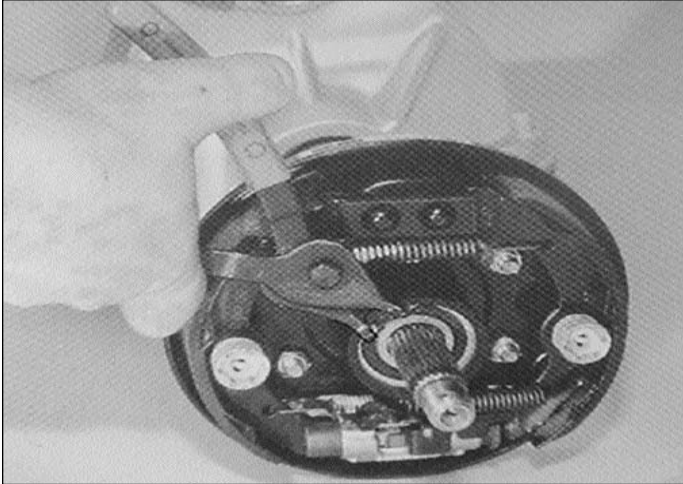

Figure 122 - Install Outer Snap Ring
40. Install outer snap ring in each tube. See Figure 122.